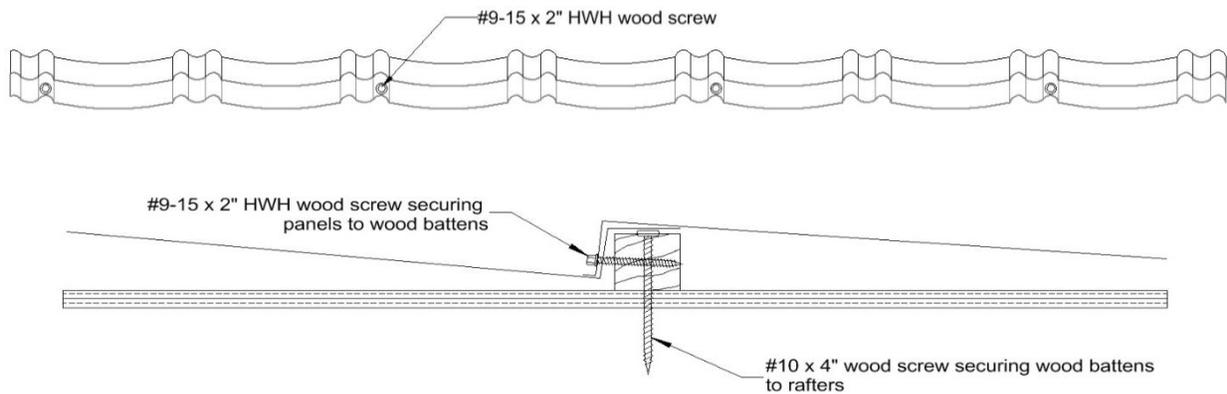

Figure 2: Terrabella Classic® Panels Fastened to Wood Battens
**Terrabella Classic Panel Attachment:** The panels are secured to the battens with four No. 9-15 x 2" long HWH self-drilling screws per panel. The first screw is located 1-1/2" from the panel edge and the remaining screws spaced 14-5/8" o.c. The screws are installed at the vertical section of the head lap securing the panel to the wood batten. Refer to Figure 2 for attachment details.